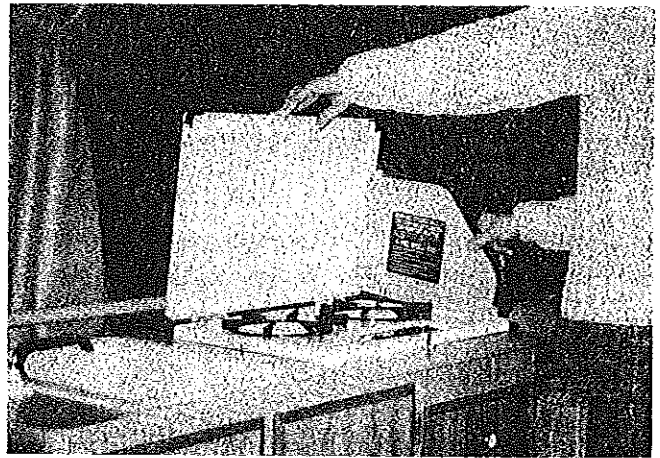

Figure 37
35. Unfasten the catch securing the stove cover. Raise the stove cover into position. Rotate the splash guard toward side of stove and fasten to side of cooktop with twist latch. See Figure 37.
7. Turn L.P. burners to off. Pull the stove cover down and secure for travel with the catch. See Figure 37.